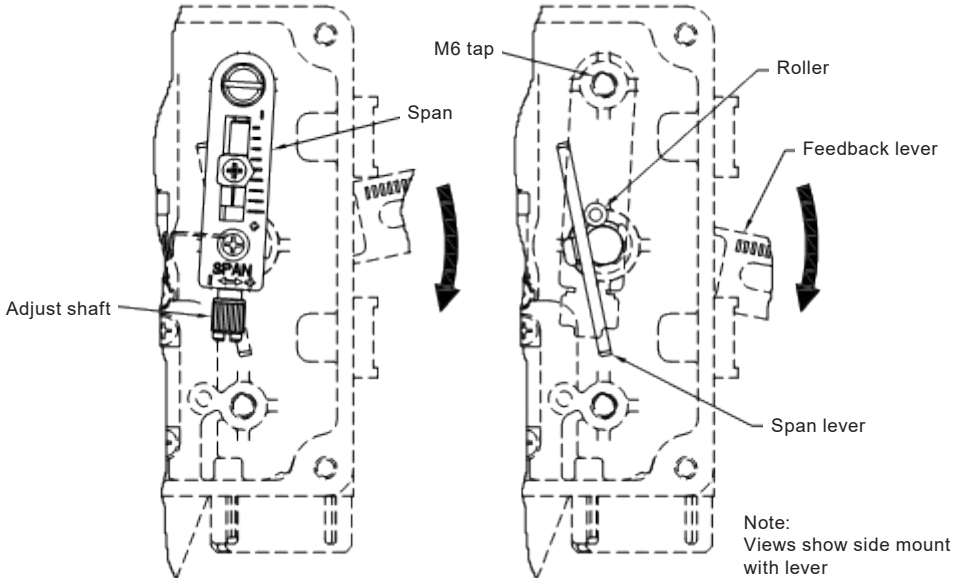

Fig. 18 Span Installation (side = DA, central = RA)
- 1) Side mount - If the actuator axis moves down when input signal is increased, assemble the "Span" to upper M6 Tap hole like the below Fig. 18.(DA)
Central mount - If the actuator axis moves up when input signal is increased, assemble the "Span" to upper M6 Tap hole like the above Fig. 18 (RA)